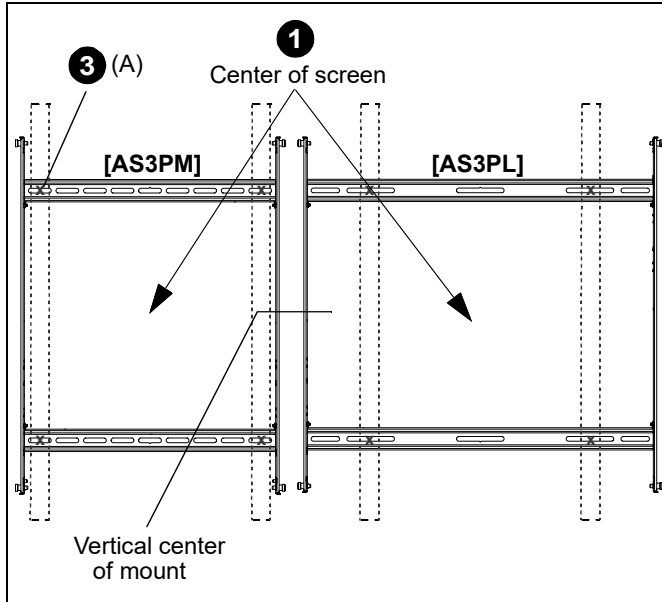

Figure 2
3. Line up the slots on the wall rail assembly (A) with the two studs previously identified. (See Figure 2)